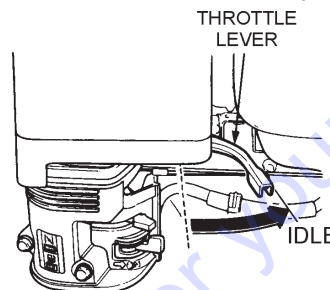

Figure 16. Throttle Lever (Idle)
1. Move the throttle lever to the **IDLE** position (Figure 16) and run the engine for three minutes at low speed.